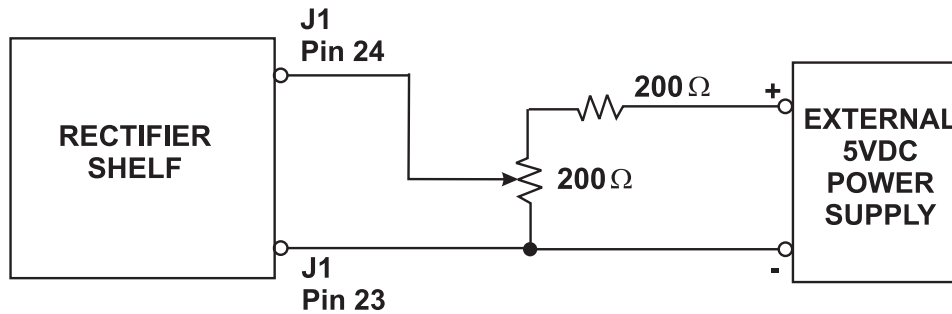

Figure 11. Checking Remote Adjust Input
- 19.10 Checking the Remote Adjust Input.** Connect a 200-ohm resistor and 200-ohm potentiometer to an external 5V power supply as shown in Figure 11. Connect the wiper arm of the pot to the Remote Adjust input, Pin 24. With